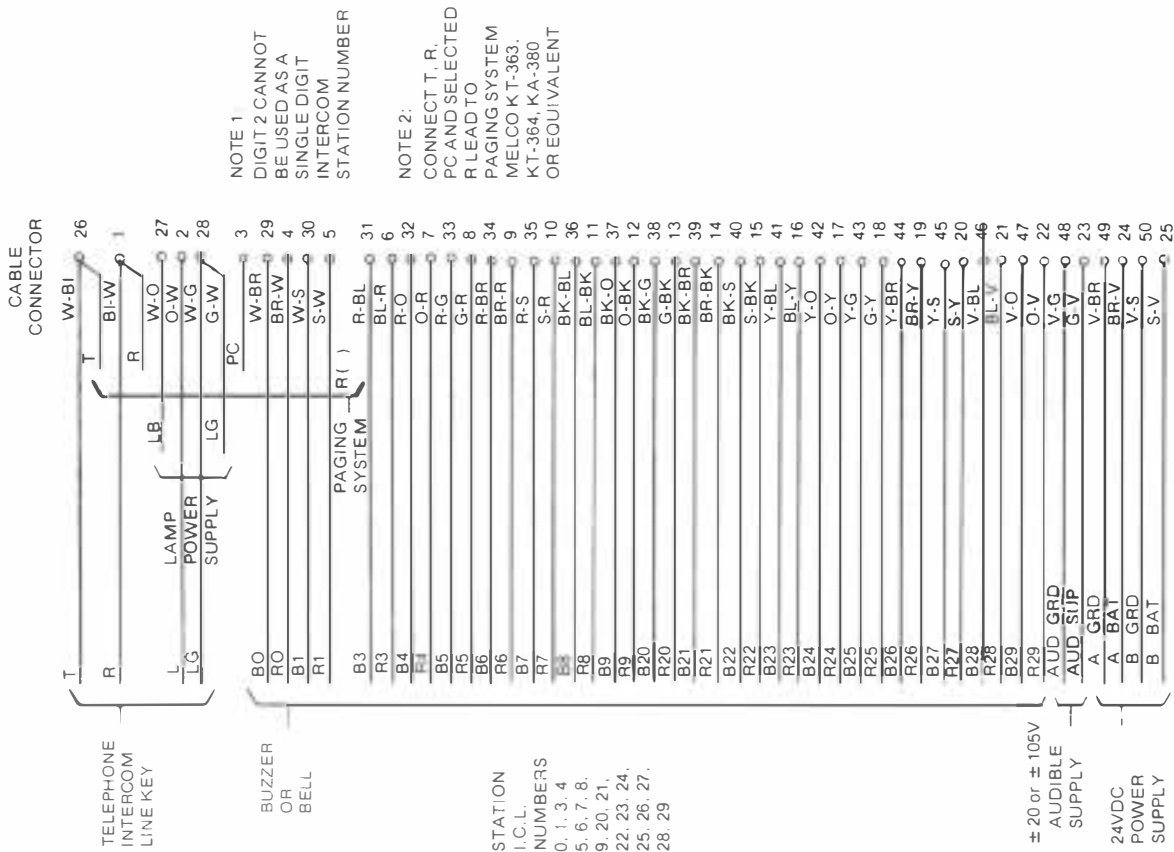

Fig. 2 — Cable and Connector for KC-19.
3.03 Connect an A25B or equivalent 25-pair connector cable to the KC-19 plug and make connections as shown in Figures 2 and 4.